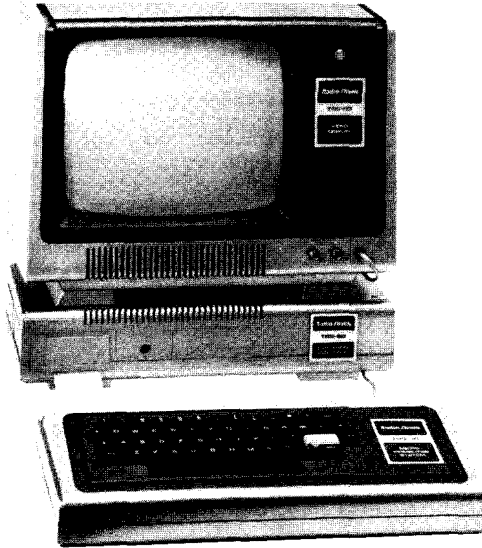

Figure 7. Set up your TRS-80/Expansion Interface/Video Display system this way.
5. Position the Expansion Interface behind the TRS-80 keyboard and place the Video Display on top of the Expansion Interface, taking care that the “feet” on the Display lock into the recesses on top of the Expansion Interface case (Figure 7).